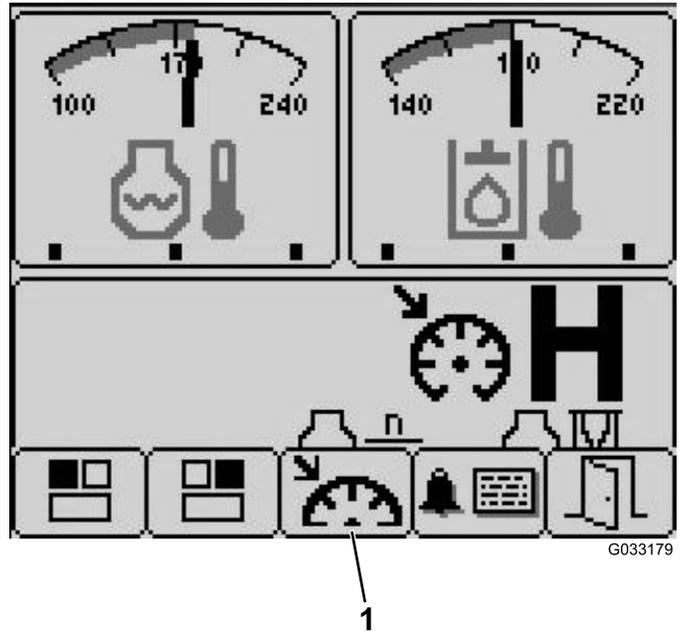

Figure 28
3. Press button 3 to access the Cruise Control screen (Figure 28).